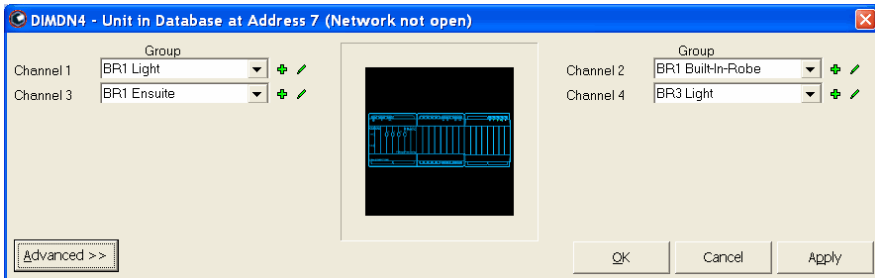

Figure 37 – Configuring the 4 Channel Dimmer in the example MRA system
- 9) Configure any additional C-Bus units. Figure 37 shows the configuration of the 4 Channel Dimmer used in the example MRA system.